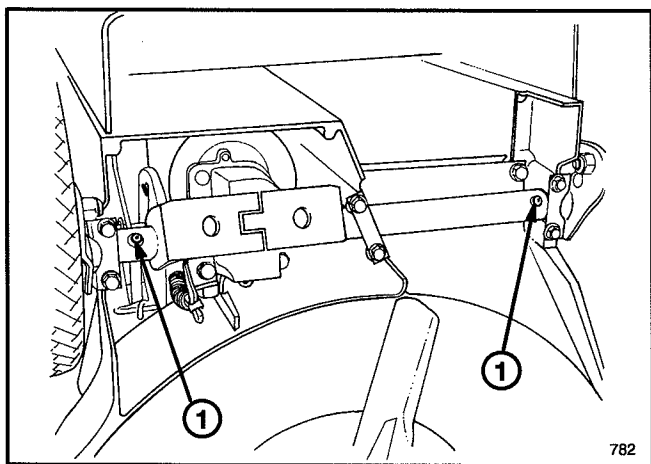

Figure 24
2. Tip the mower on its left side. Wipe grease fittings with clean rag (Fig. 24). Install grease gun onto fitting and gently apply one or two pumps of #2 Multi-Purpose Lithium Base Grease.